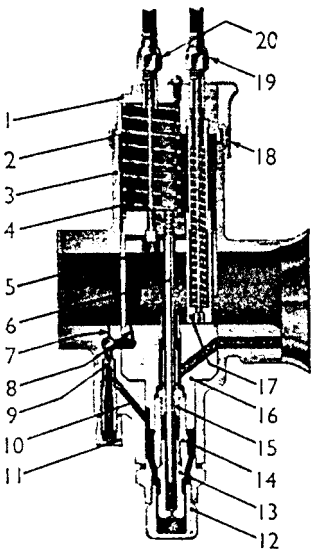

Fig. 2 — Section through mixing chamber, showing air valve and throttle closed.
BAD PETROL CONSUMPTION of a new machine may be due to flooding, caused by impurities from the petrol tank lodging on the float needle seat and so prevent its valve from closing. Flooding may be caused by a worn float needle valve. Also bad petrol consumption will be apparent if the needle jet (15) (see fig. 2) has worn; it may be remedied or improved by lowering the needle in the throttle, but if it cannot be—then the only remedy is to get a new needle jet.